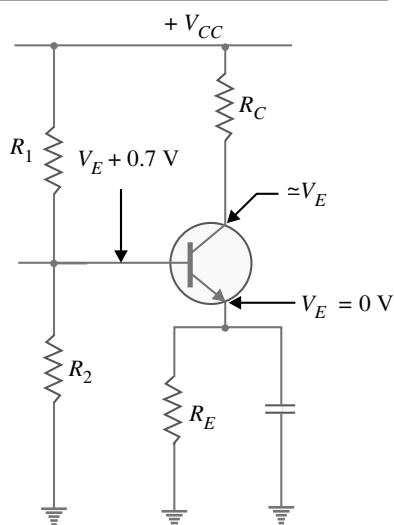

Fig. 7.63
10. What fault is indicated in Fig. 7.63? Give reasons for your answer.  $[R_C \text{ is open}]$